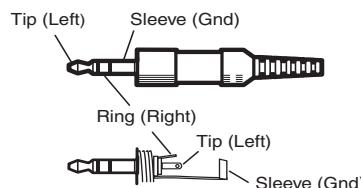

Figure 2-6 — Audio input connector wiring
- ② **Audio input (RGB 192 and 198 only)** — Connect the unbalanced stereo audio source (such as a computer or a CD player) to this 3.5 mm mini stereo jack for unbalanced audio input. Figure 2-6 shows how to wire the audio jack.